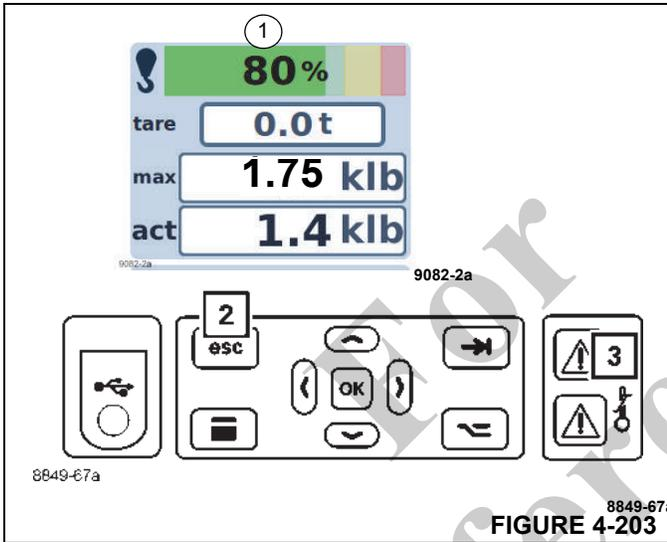

FIGURE 4-203
- An intermittent buzzer tone will sound. After five seconds, you can switch off the buzzer tone using button (2, Figure 4-203).
- The lamp (3) lights up.
- Display (1) shows the current degree of utilization, e.g. 80%; the bar is green.